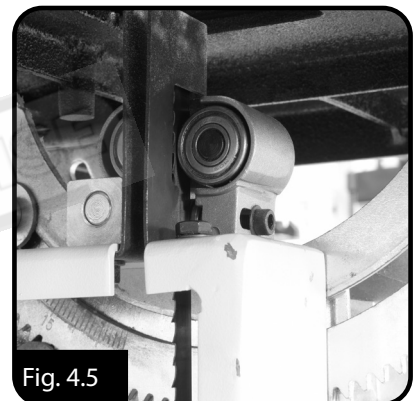

Fig. 4.5
1. Raise the upper blade guide assembly as high as it will go, and adjust the upper and lower guide blocks approximately 0.5mm away from the blade. (Fig.4.4 & Fig.4.5)